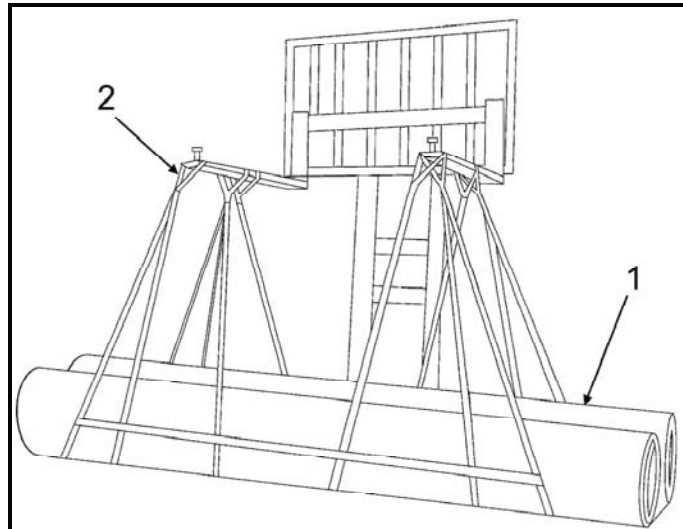

Figure 12. Lifting the tank.
13. Locate the lifting straps (Figure 12, Item 2) around tank (Figure 12, Item 1). Carefully insert fork lift forks (10,000-lb. capacity) through the loops of lifting straps.